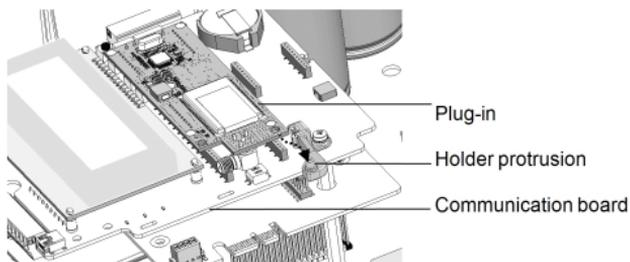

Figure 15: Installing the cellular plug-in on the holder
6. Insert the supplied plug-in in its place on the communication board, as shown in *Figure 15*. Follow these guidelines: